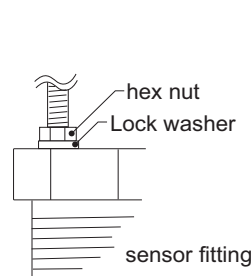

Fig. 4
- Thread one hex nut onto each of the three threaded rods included in package. Install threaded rod with a lock washer onto the sensor fitting. Secure rods in place by tightening each hex nut against the sensor fitting. (Fig. 4)